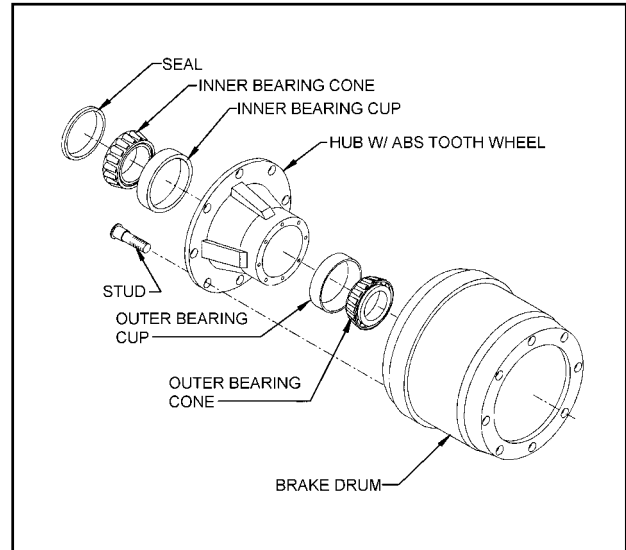

Figure 4-5 Hub and Drum Assembly
4-8.4 Replace the hub and drum as follows (See Figure 4-5):
- a. Remove the brake drum (See Figure 4-5). It may be necessary to release the slack adjuster.
- i. Place the drum over the hub and brake shoes being careful not to damage the threads on the studs (See Figure 4-5). Make sure the drum seats flat against the hub flange and mates properly with the hub pilot. There should be no interference between the brake drum pilot chamfer and the corner radius on the hub. If interference exists, the hub will not be able to function properly.